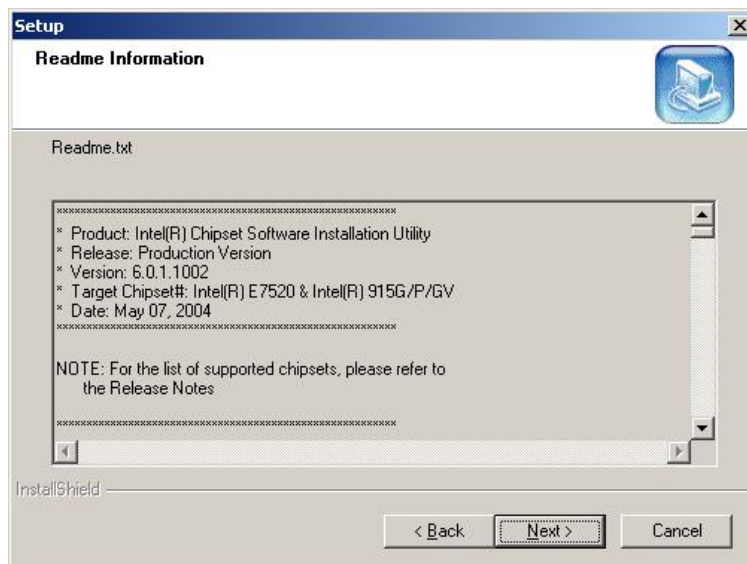

Figure 6-4: Readme Information
Step 5: Agree to the license terms by clicking “YES”. The “Readme” in **Figure 6-4** appears.